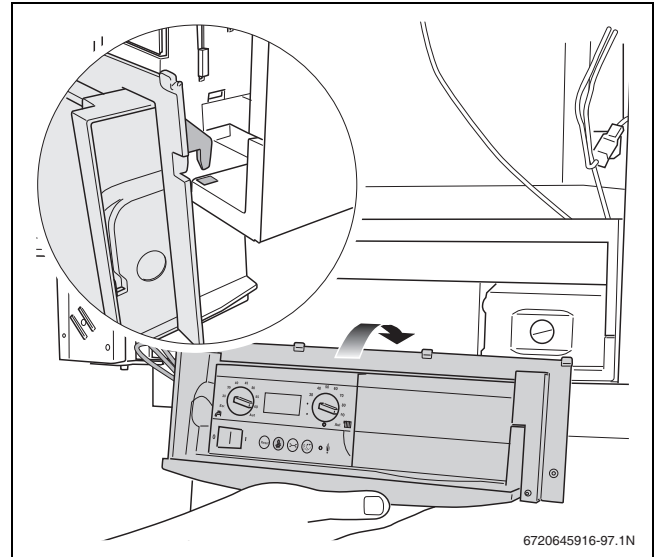

Fig. 99 Hanging the control panel from the boiler frame
- ▶ Use the 2 hooks to hang the control panel from the boiler (→ fig. 99).